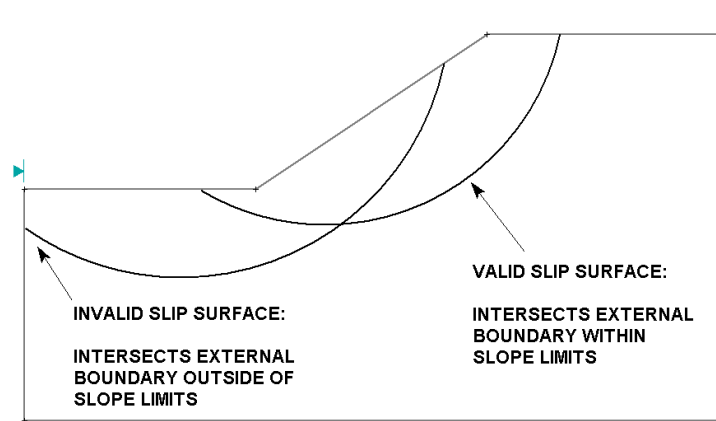

Figure 1-6: Slope Limits filtering for valid surfaces.
1. **FILTERING** – All slip surfaces must intersect the External Boundary, within the Slope Limits. If the start and end points of a slip surface are NOT within the Slope Limits, then the slip surface is discarded (ie. not analyzed). See Figure 1-6.